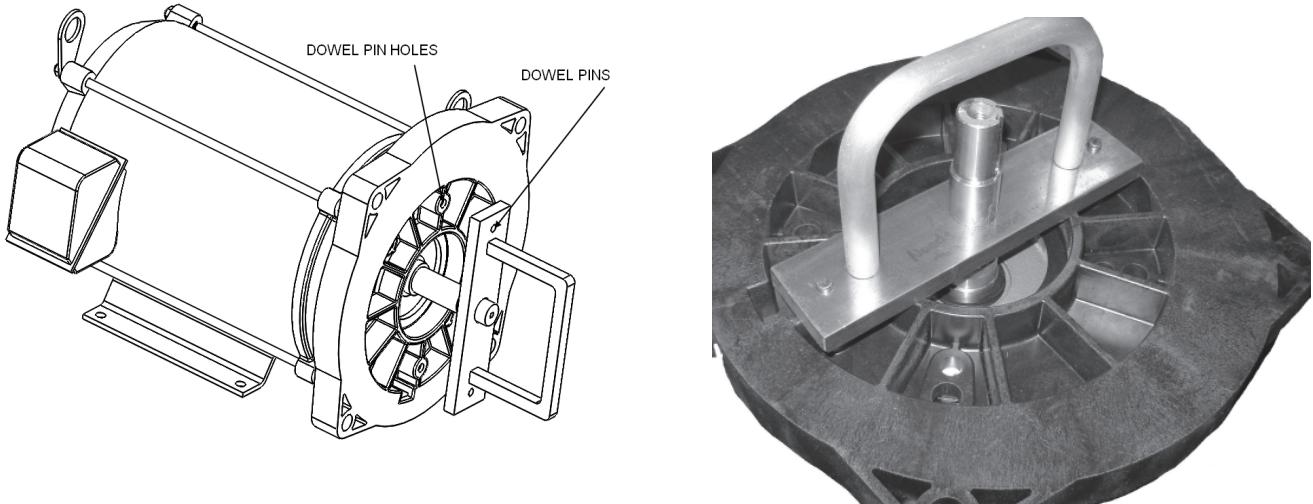

Figure 3
3. Insert the dowel pins on the alignment tool into the dowel pin holes on the motor adapter (Figure 3).